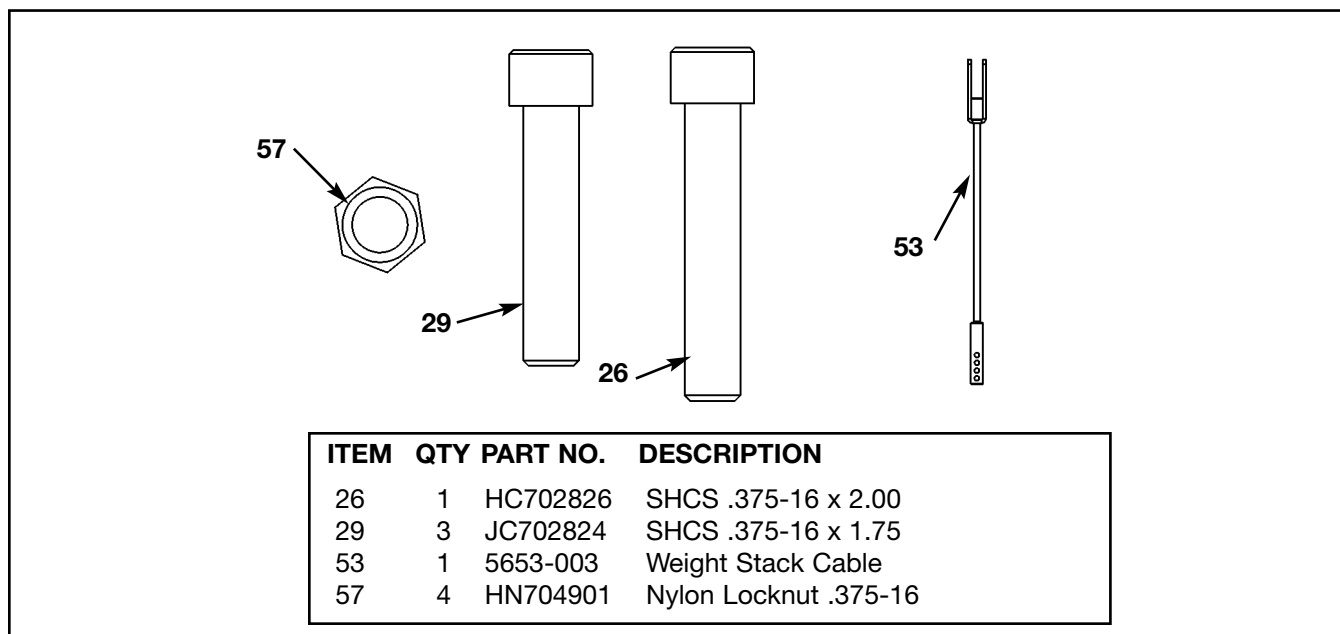

Figure 5
- F.** Remove both hardware packs from the carton and verify the contents of each. See Figures 5 - 7.
NOTE: Figures 5 and 6 are for the Free Standing configuration.
A. Locate the half weight peg (#67), BHSCS .25-20 x .75 (#84) and split lockwasher (#82) from the column hardware pack shown in Figure 5.